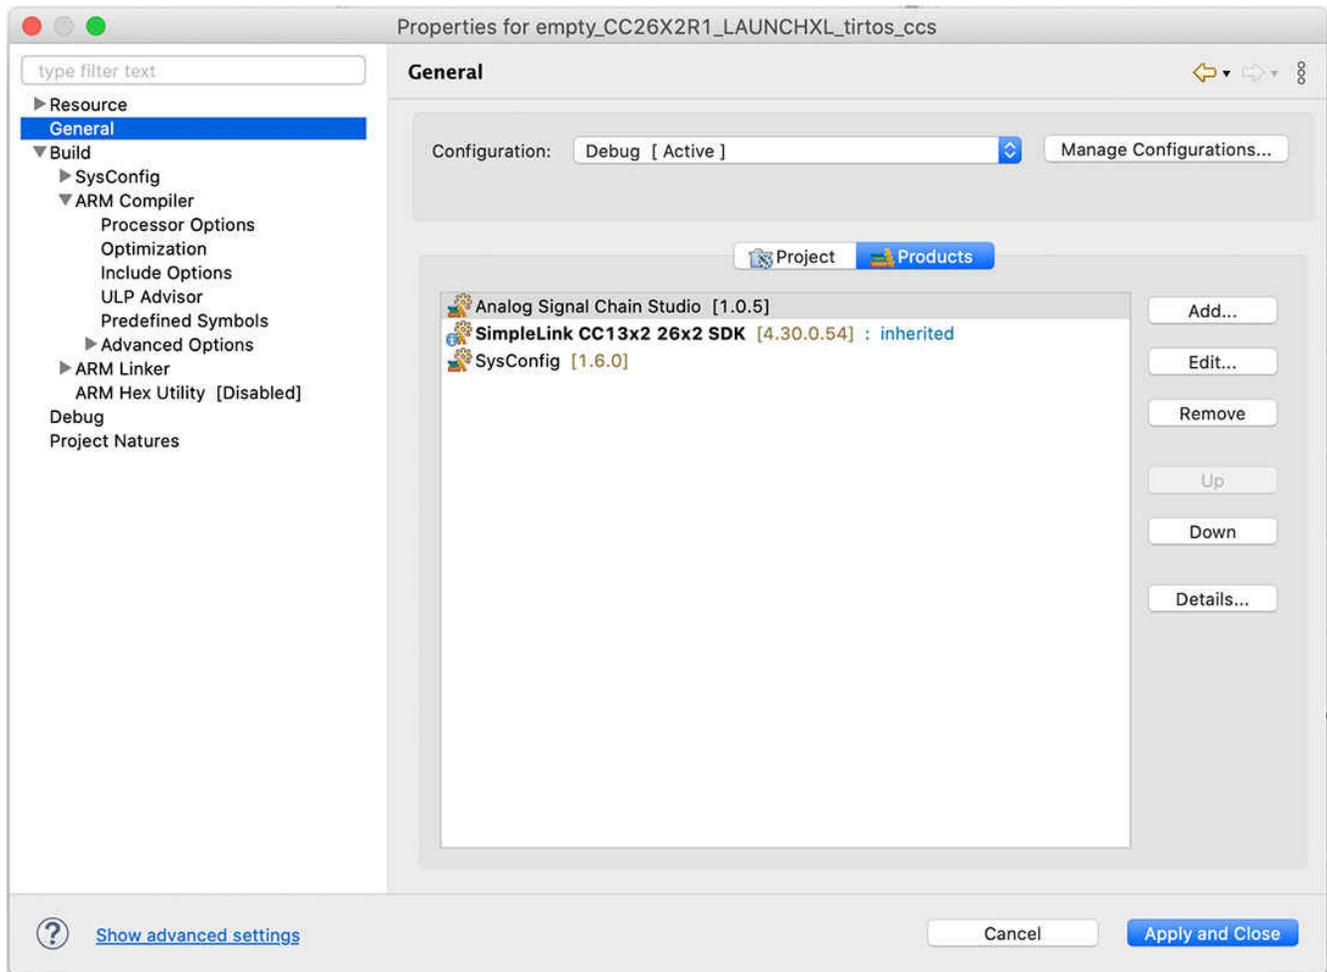

Figure 3. Adding ASC Studio to a Project
- Add ASC Studio to the project – Figure 3 showcases this view in Code Composer Studio IDE.